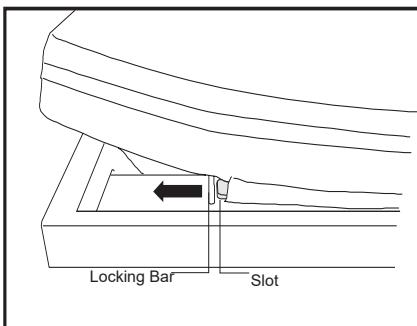

Figure 4
4. Slip other end of locking bar into other slot on head-end of bed frame, as shown below (Figure 4).